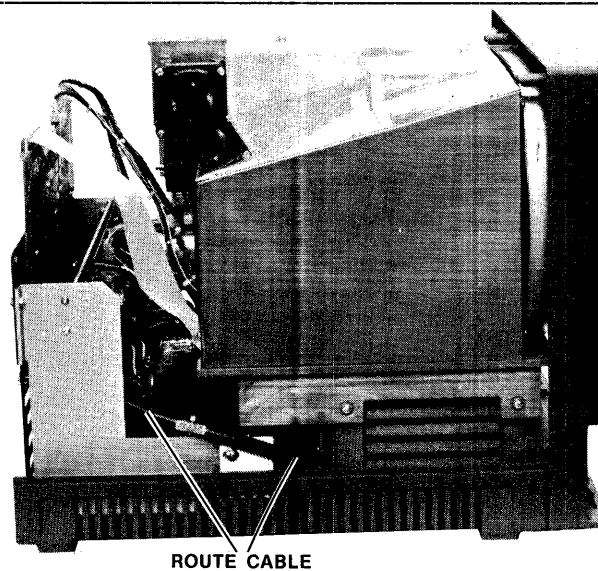

Fig. 4-8 Locating the Disk Control Cable
8. Dress the cable along the side of the main chassis as shown in Figure 4-8.